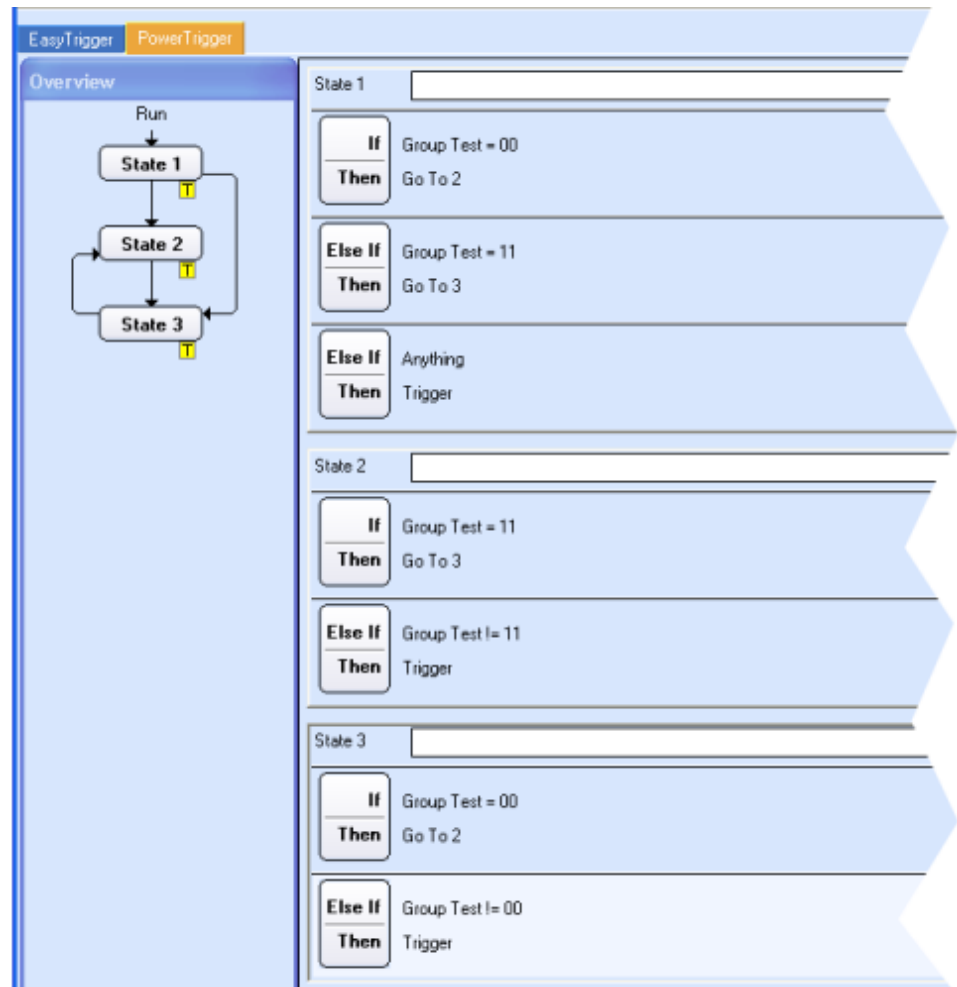

Figure 2: Set the trigger states
- Open the LA Trigger window and select the Power Trigger tab. Set up three states as shown. (See Figure 2.)